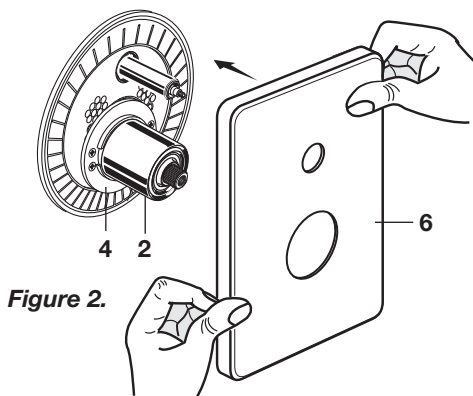

Figure 2.
- **Figure 2.** Install ESCUTCHEON (6) onto CAP (2) and push against nished wall. Escutcheon (6) will snap fit onto ESCUTCHEON SUPPORT (4).